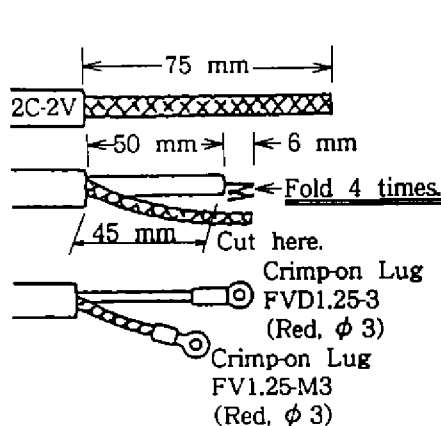

Figure 2-9 Fabricating the coaxial wire
- 7) Connect the signal cable to the terminal board RTB801 by referring to the interconnection diagram. Leave "slack" in the coaxial wire to prevent breakage. See Figure 2-6 or Figure 2-9.
- 7) Fabricate the coaxial wire as shown in Figure 2-9. Make the length 10 mm longer than the shield to prevent wire strain. Attach crimp-on lug FVD1.25-3 (red,  $\phi 3$ ).